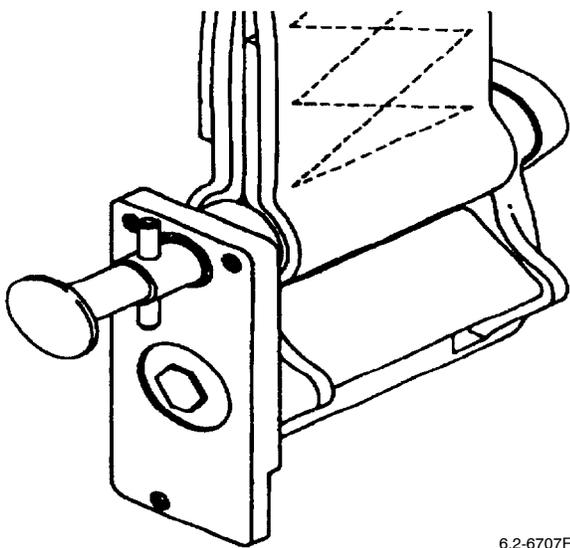

Figure 28. Depress Release Piston O-Ring Installation Tool
(6) Depress release piston O-ring installation tool plunger to seat release piston and packing (Figure 28).